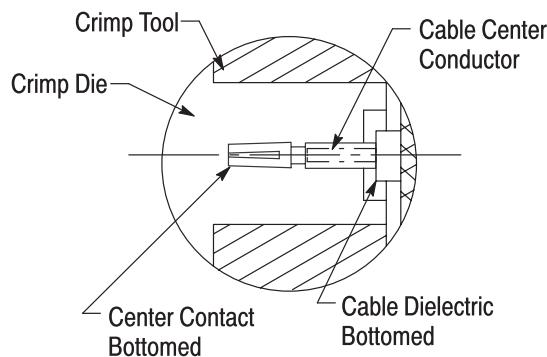

Figure 3
3. Set the selector knob of the crimp tool (for the center contact) to "3". Insert the center contact into the crimp die until it bottoms. Insert the cable center conductor into the center contact until the dielectric bottoms. Refer to Figure 3.